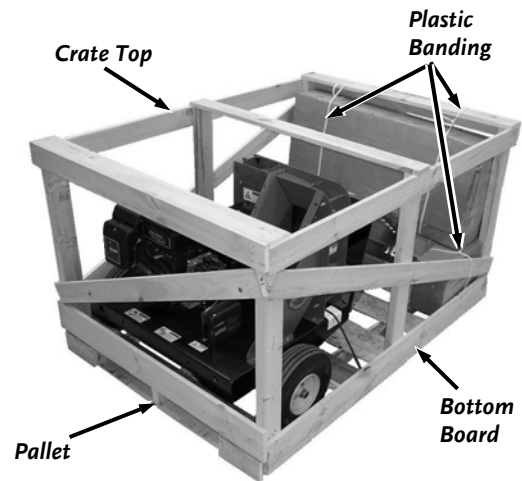

Figure 5
1. Cut the Plastic Banding that is securing the Parts Box and any Accessory Box that may be strapped to the Crate Top (**Figure 5**).